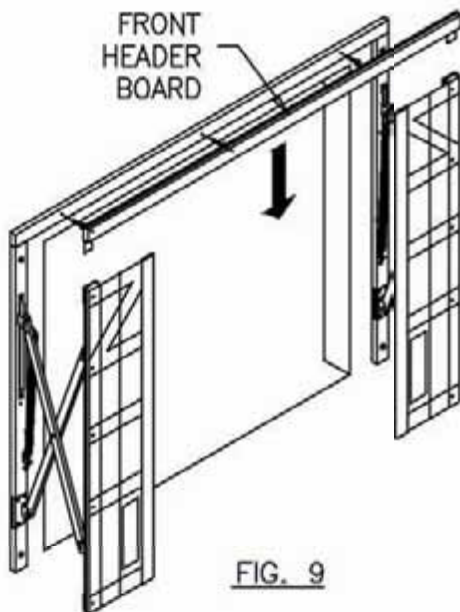

FIG. 9
- Connect front header board to left and right verticals by sliding tongues at each end of front header board into slots at top end of verticals (fig. 9).